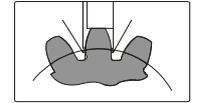

Fig.3
---Move caliper to make horizontal vernier jaw contact the left side of the measured gear. Rotate fine adjusting wheel to move jaw to make the other jaw contact the right side (Fig.3), tighten the locking screw, take down the caliper, get the chordal thickness.